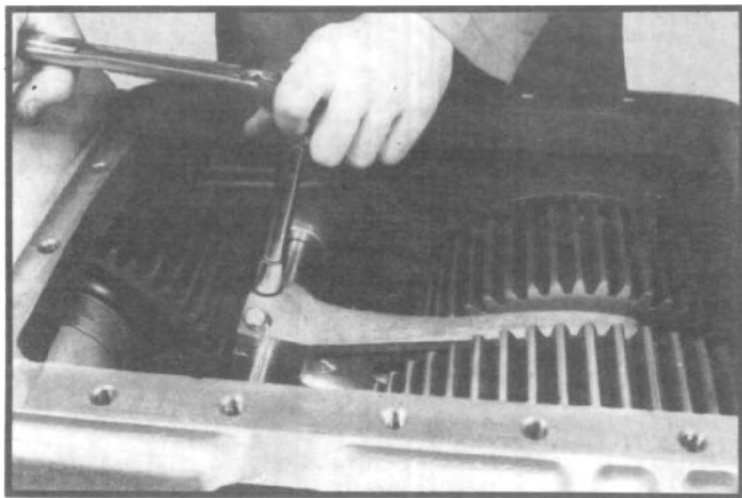

Fig. 197 (old style)
8. Place a small amount of oil on shaft and install shaft through shift fork, sliding shaft into cap on opposite side of housing. (See fig. 196.) Align two grooves with clamping screw holes and install shift fork clamping screws. Tighten shift fork clamping screws to correct torque. (See fig. 197.) Secure clamp screws with lockwire.